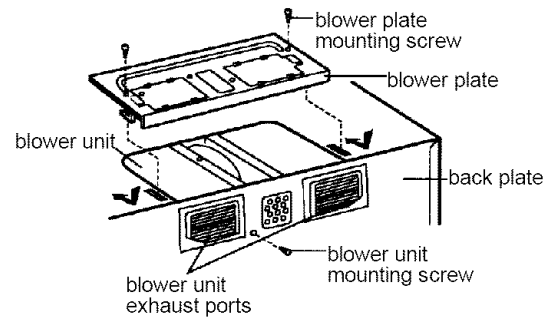

Figure 18
7. Reattach the blower plate to cabinet so the exhaust ports and blower plate opening are aligned. Attach with one blower unit mounting screw and then one or two blower plate mounting screw(s). See Figure 18.